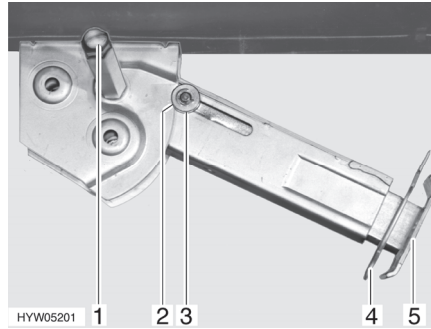

Fig. 44 Steady leg
- Place the socket spanner on the hexagon nut (Fig. 44,1) and rotate until the steady leg is in a perpendicular downward position.
- Remove the splint (Fig. 44,4) out of the support foot extension (Fig. 44,5).
- Place the socket spanner on the hexagon nut (Fig. 44,1) and rotate until the steady leg is clear of the ground.
- Push in the support foot extension (Fig. 44,5) and insert the splint (Fig. 44,4) in the drilled hole in the support foot extension.
- Rotate the hexagonal nut (Fig. 44,1) with the socket spanner until the steady leg has swung upwards and the guide disc (Fig. 44,3) has completely retracted into the notch (Fig. 44,2).